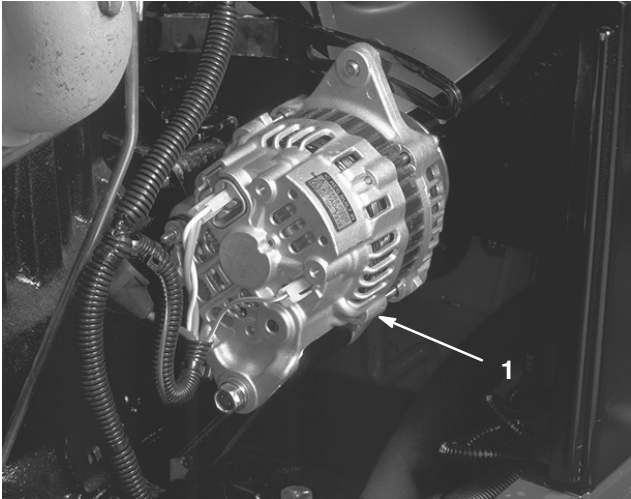

Figure 47
- C. Loosen the 3 bolts securing alternator to plate and mounting bracket (Fig. 47). Rotate alternator away from engine to increase tension and tighten bolts. Check belt tension after adjustment and re-adjust, if necessary.